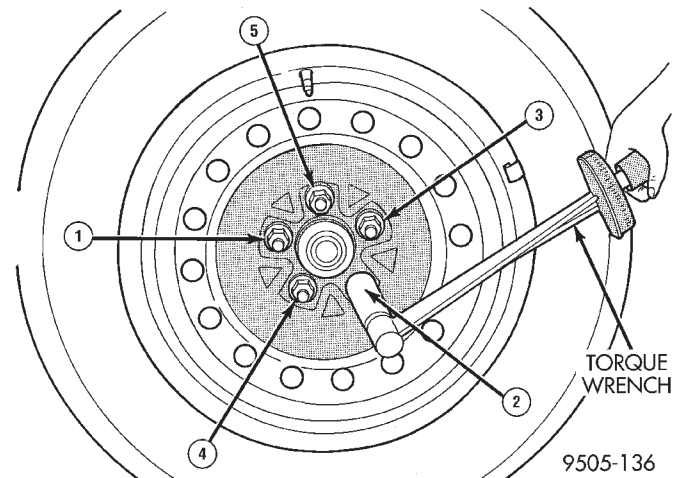

Fig. 25 Wheel Lug Torquing Sequence
(16) Install front wheel and tire assembly. Install front wheel lug nuts and tighten in the correct sequence (Fig. 25). Tighten lug nuts to 135 N·m (100 ft. lbs.).
(17) Lower vehicle.
(18) Check for correct fluid level in transaxle assembly. Refer to Group 21, Transaxle for the correct fluid level checking procedure for the type of transaxle being checked.
(19) Set front toe on vehicle to required specification.